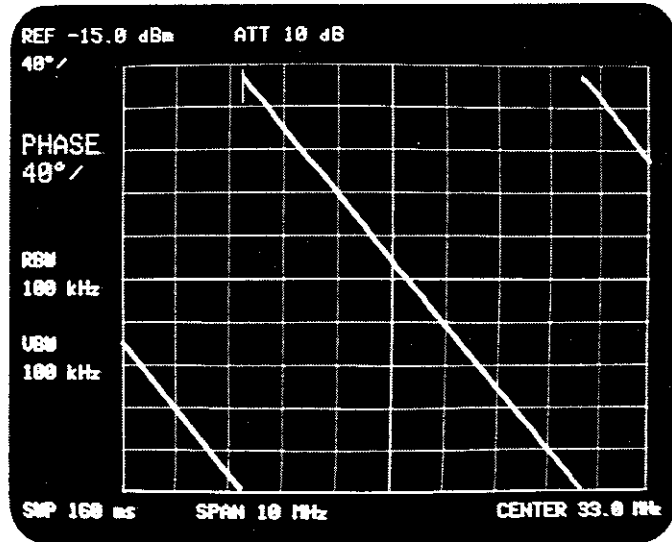

Fig. 7-3 Through Phase Response
- (4) Disconnect the filter from the measurement system and connect the cables to each other to check the through frequency response.
- (5) The through phase response can be observed by pressing the PHASE key. (See Figure 7-3.)